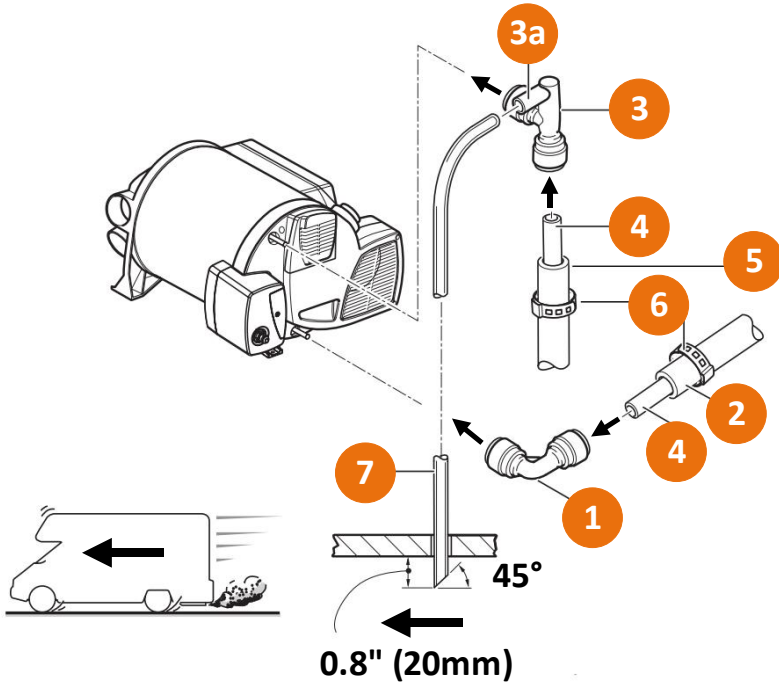

Figure 15
Figure 15 shows an example of how to connect the water lines.
4. Make sure that the venting hose extends only 0.8" (20mm) beneath the motorhome's undercarriage. Cut the end of the hose at a 45-degree angle (Figure 15).